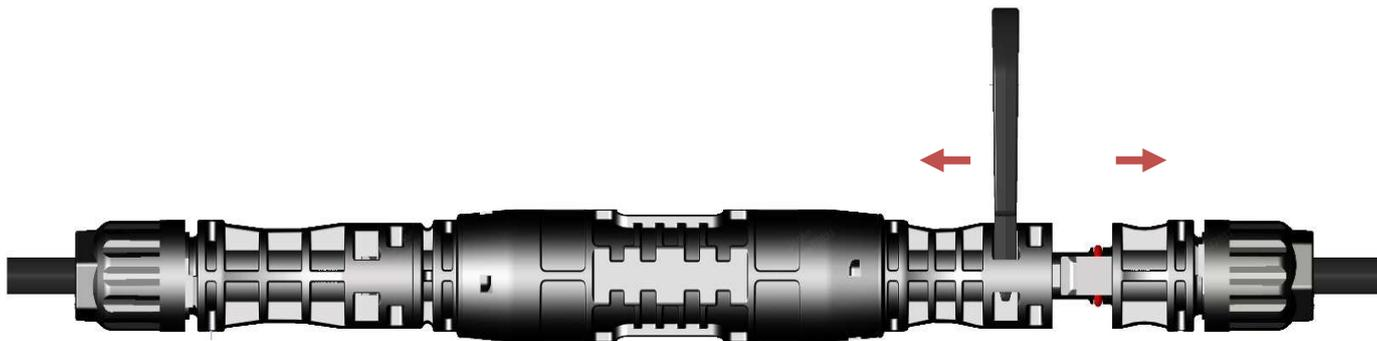

Figure 3
- ◇ 用左右手分别拉拔连接器，即可分开分支连接器与公母电缆连接器（如图 3）。
Separating the branch connector from the male and female cable connector by pulling the connector with both left and right hands (Fig. 3).